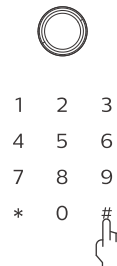

Figure 1
2. As shown in Figure 1, wake up the digital panel by scanning any fingerprint or touching the numeric keypad. Enter the initial password '1234' and press the [#] key to confirm. You will hear a voice prompt saying 'Unlocked.' Open the battery compartment and insert four AA batteries to complete the initial setup.